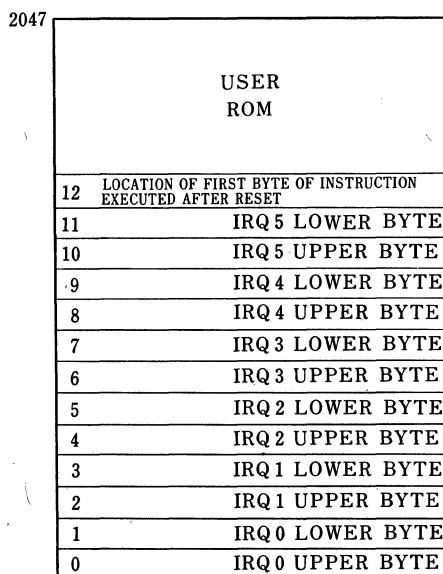

Fig.1 Program memory map
**Program Memory** Fig. 1 is a map of the 2K on-chip program ROM. The first 12 bytes of program memory are reserved for the LH8590 interrupt vectors.